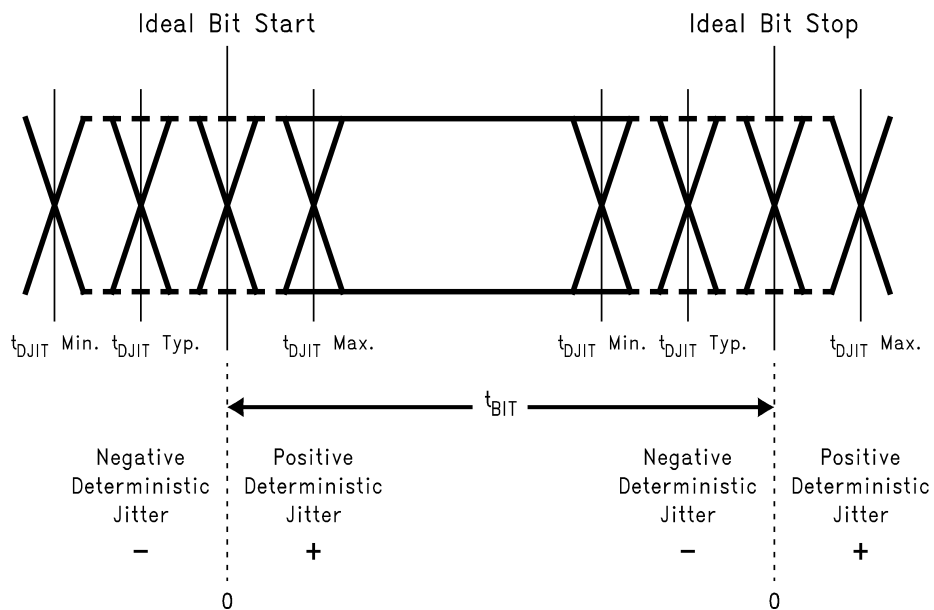

Figure 9. Deterministic Jitter and Ideal Bit Position
- (4) t_{RJIT} specification is the rms jitter measurement of the serializer output when the device is transmitting SYNC pattern.
- (5) t_{DJIT} specification is measured with the serializer output transmitting PRBS pattern from the internal BIST mode. It is a measurement of the center distribution of 0V (differential) crossing in comparison with the ideal bit position. See Figure 9